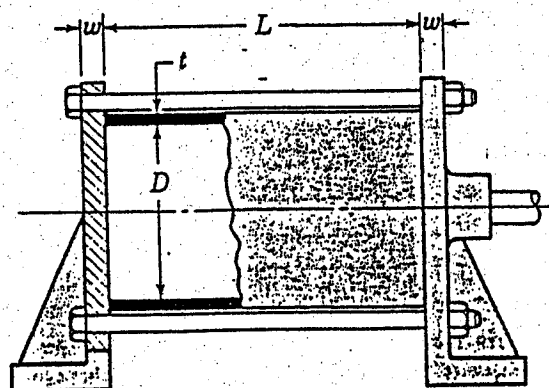

FIGURE 3
3. Figure 3 shows a hydraulic cylinder in which  $D = 100\text{mm}$ ,  $t = 10\text{mm}$ ,  $L = 300\text{mm}$  and  $w = 20\text{mm}$ . Both end brackets as well as the cylinder are made of steel. The cylinder has been designed for a working pressure of  $4\text{MPa}$ . Five  $M12 \times 1.75$  metric grade 5.8 bolts are used, tightened to 75 per cent of the proof load